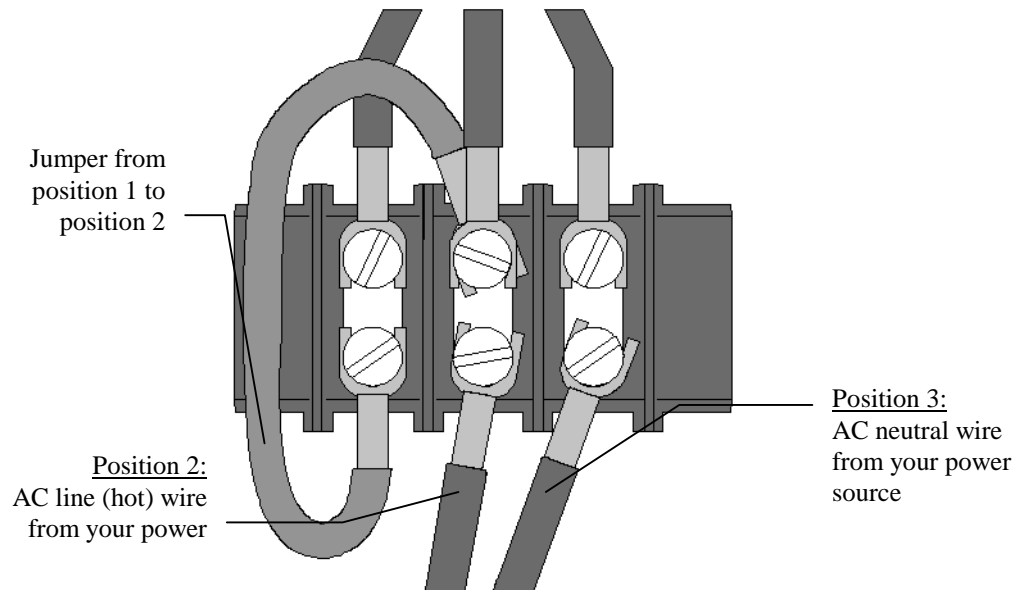

Figure 8 Power Connections
4. Connect the AC line wire to position 2 and AC neutral wire to position 3 of terminal strip T3 on the junction chassis according to figure 8.